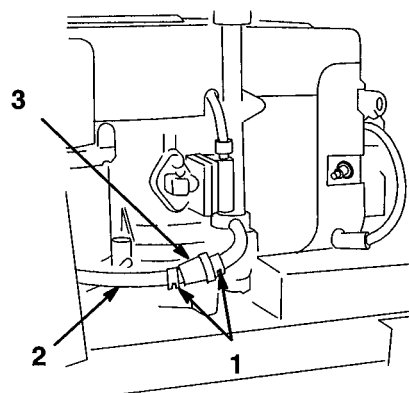

Figure 27
4. Squeeze the ends of the hose clamp together and slide it up the fuel line toward the fuel tank (Fig. 27).
5. Pull the fuel line off the filter (Fig. 27). Open fuel shut-off valve and allow gasoline to drain into an approved gas can.